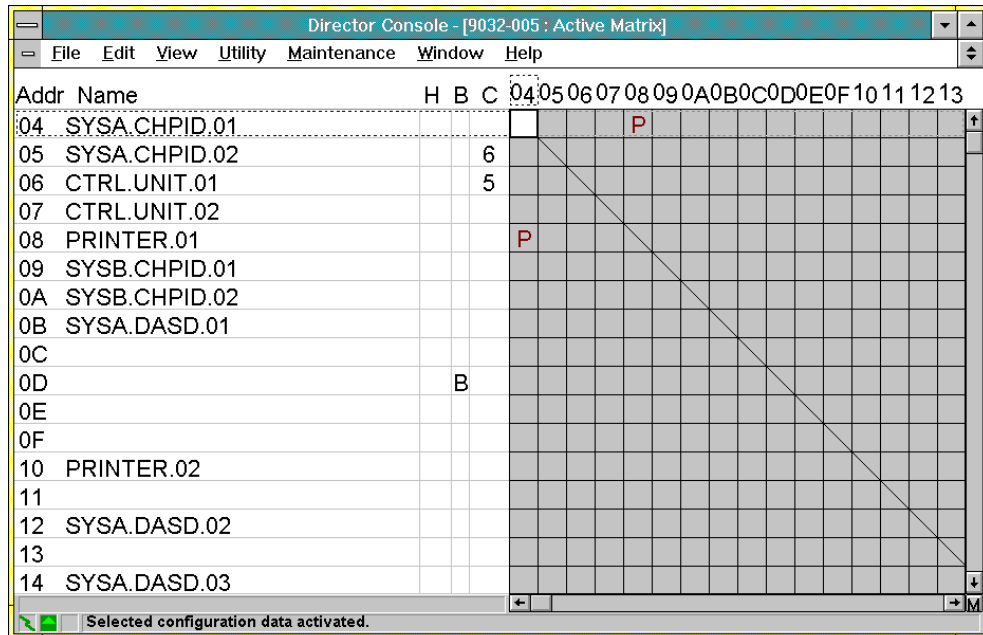

Figure 23. Matrix Window (Nongraphic Display Mode, No FCV Port Cards)
Nongraphic Display Mode - Figure 23 shows the Director matrix in non-graphic display mode with no FCV port cards installed (no FICON capability) and no logical partitioning enabled. Logical port addresses are listed on the left side of the matrix (under the *Addr* column) and above the matrix grid. Port addresses 04 through 12 are displayed.
- **B** - A **B** in this column indicates a port is blocked. If the column is blank, the port is unblocked. In Figure 23, port *0D* is blocked.
- **C** - A port address in this column indicates a dedicated connection to that port. In Figure 23, ports *05* and *06* have a dedicated connection. This is indicated by a **6** in port row *05* and a **5** in port row *06*.
- **Matrix Columns** - Each square in the matrix represents the intersection of one port row and one port column, and indicates connectivity status between the two ports. A blank matrix square indicates a connection between ports is allowed. A red **P** in a matrix square indicates a connection between ports is prohibited. In Figure 23, a connection between ports *04* and *08* is prohibited.